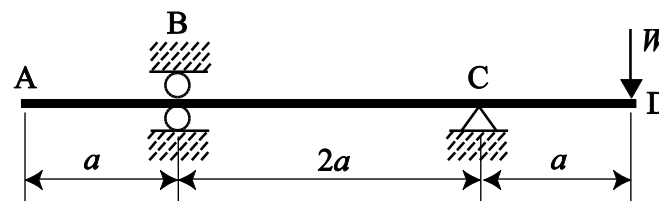

Figure 2
- * 2. The uniform elastic beam (flexural stiffness B) shown in Figure 2 is loaded by a single force W at one end. The supports are able to provide upwards or downwards reactions, as required. Find the vertical deflections of the two tips of the beam on account of the applied load. (Hint. Begin by ignoring portion AB entirely.)